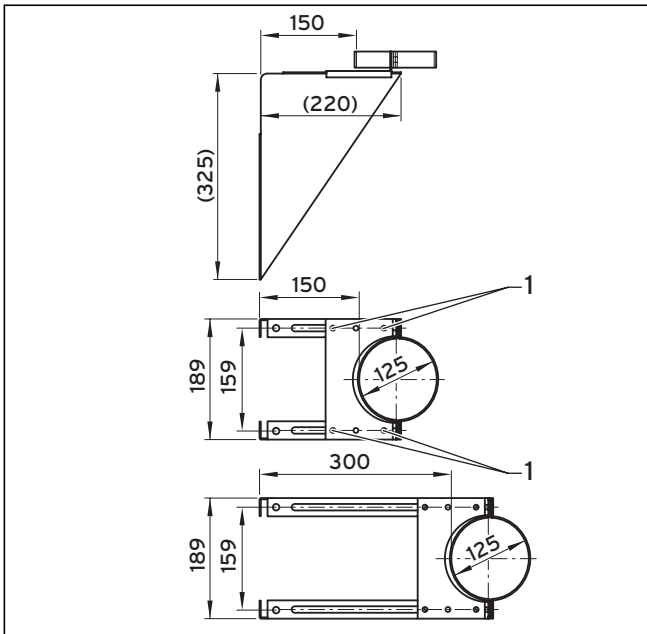

Fig. 2.19 Installation of wall bracket
- Set the required distance from the wall and fully tighten the 4 bolts (1, Fig. 2.19) in the mountable position.